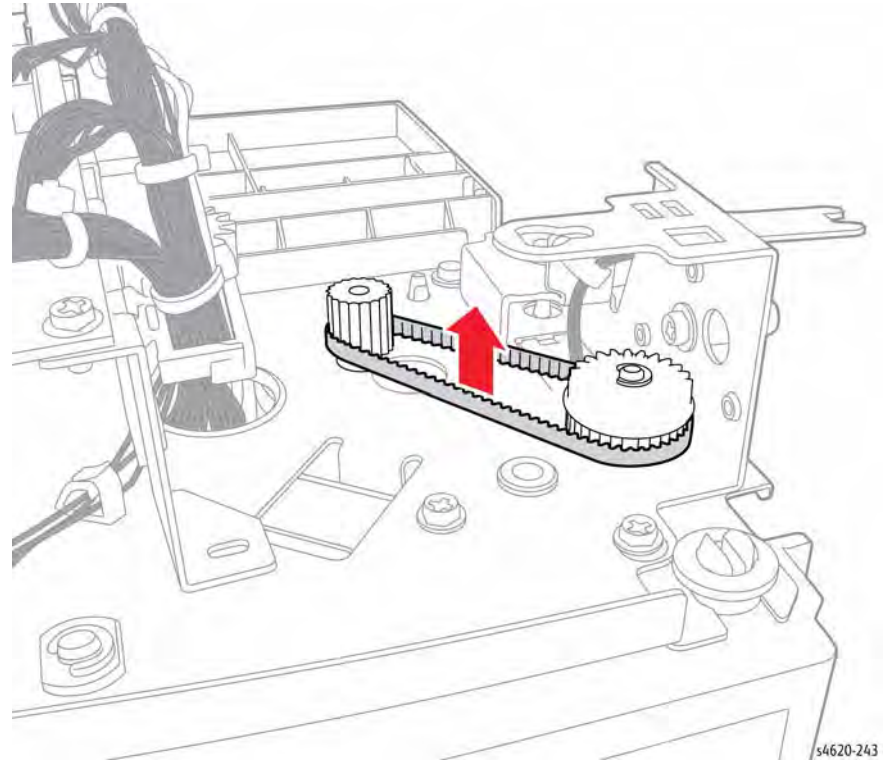

Figure 3 Remove the Entrance Drive Belt
7. Remove the belt from the entrance motor shaft and pulley, Figure 3.